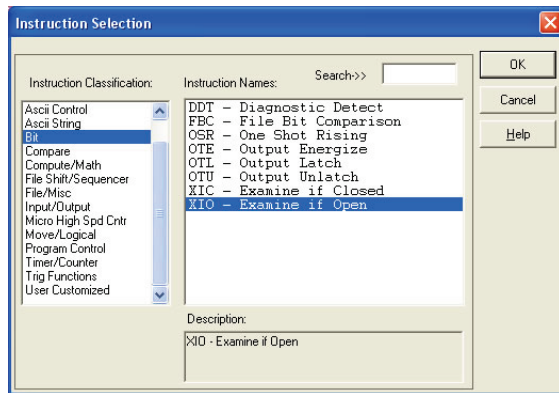

Figure 70: XIO Instruction Selection
- b) Select the “XIO” instruction from the “Bit” classification, then click OK. Refer to Figure 70.